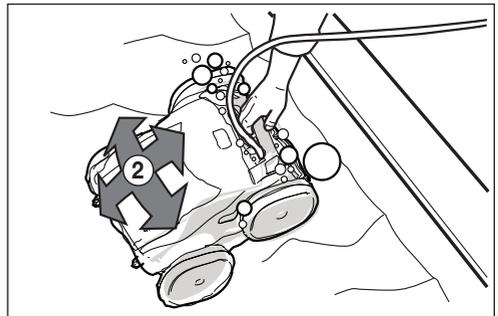

Figure 5. Cleaner Sinking to the Bottom of the Pool
3. Ensure the unit sinks to the bottom of the pool and does not float (Figure 5).